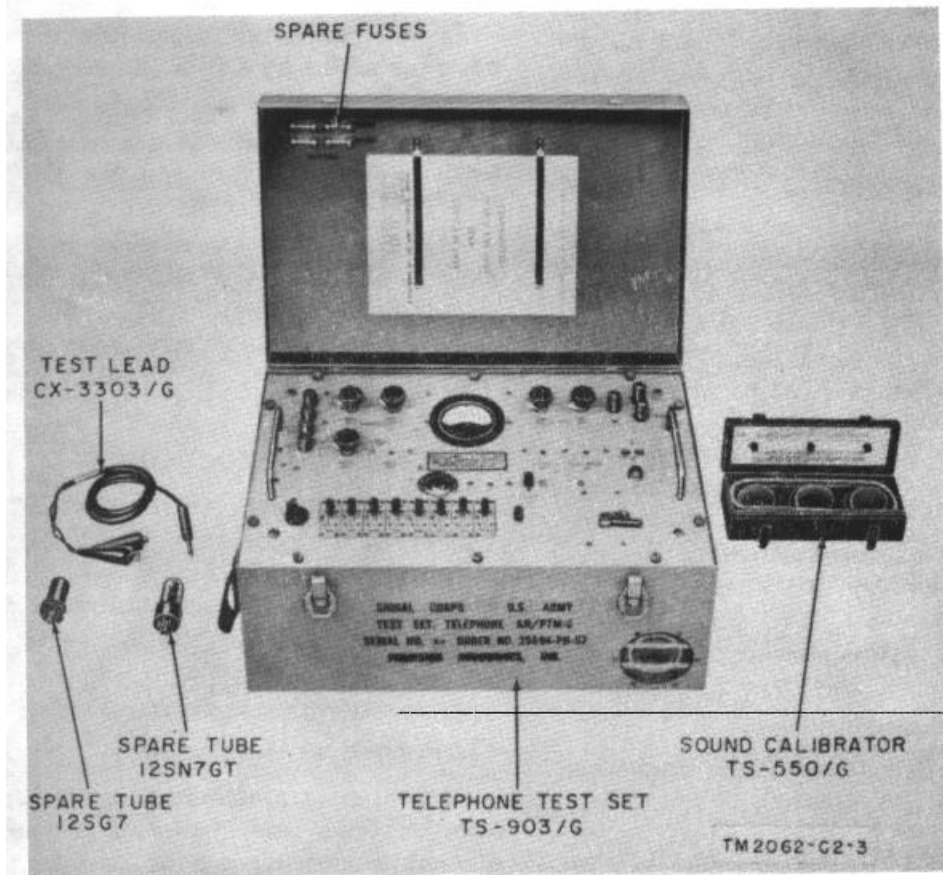

Figure 2.1. Telephone Test Set AN/PTM-6, components.
- (1) Four spare fuses are mounted on the inside cover of the carrying case (fig. 2.1).
- (2) The AN/PTM-6 is shock-mounted inside the carrying case.
(3) Hexagonal-head captive screws are used to secure the front panel in the carrying case.
(4) All models procured on Order No. 32387-Phila-56 are equipped with two chest handles (fig. 2.1) instead of the carrying strap (fig. 1), any keys K1 through K8 are mounted directly on the front panel. Add figure 2.1 (added by C 2, 9 January 1956) after figure 2: